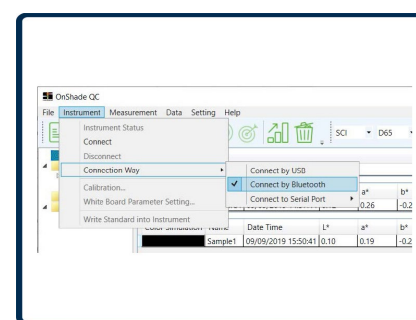

Figure 15: Connect instrument via Bluetooth
- From the OnShade system menu select "Instrument">"Connection Way">"Connect by Bluetooth". If this has already been selected, then click "Connect" (Figure 15).